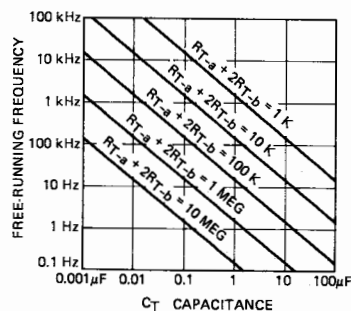

FIG. 14—FREQUENCY of the astable multivibrator can be determined from the graph.
As capacitor C_T starts charging toward $\frac{2}{3} V_{cc}$, the output goes high and remains so for period t_1 —in seconds equal to $0.693 (R_{T-a} + R_{T-b}) C_T$. The discharge period—the time that the output is low—is $0.693 (R_{T-b}) C_T$. Frequency is the reciprocal of the total time period (T) or $1.44 / (R_{T-a} + 2R_{T-b}) C_T$. The free-running frequency of the multivibrator can be determined from Fig. 14 which relates frequency in hertz to C_T , R_{T-a} and R_{T-b} . Note that if R_{T-b} is greater than $\frac{1}{2} R_{T-a}$, the circuit cannot oscillate because the voltage at pin 2 cannot drop to $\frac{1}{3} V_{cc}$ so that the circuit can re-trigger.